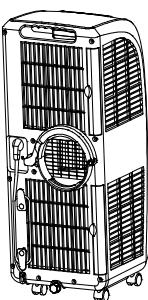

Figure 4
- 3). Rotate the C shape buckle of the heat exhaust hose that is slided into place counterclockwise to clip the snap joint of the C shape buckle of the back shell successfully through the guide of the slide way of the back shell (as shown in Figure 4).